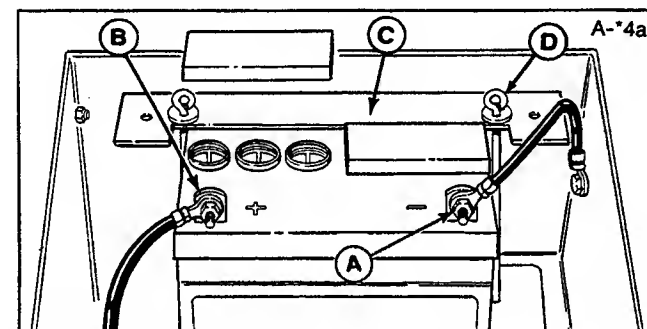

Figure 18. Battery
1. Disconnect the cables from the battery, negative cable first (A, figure 18).